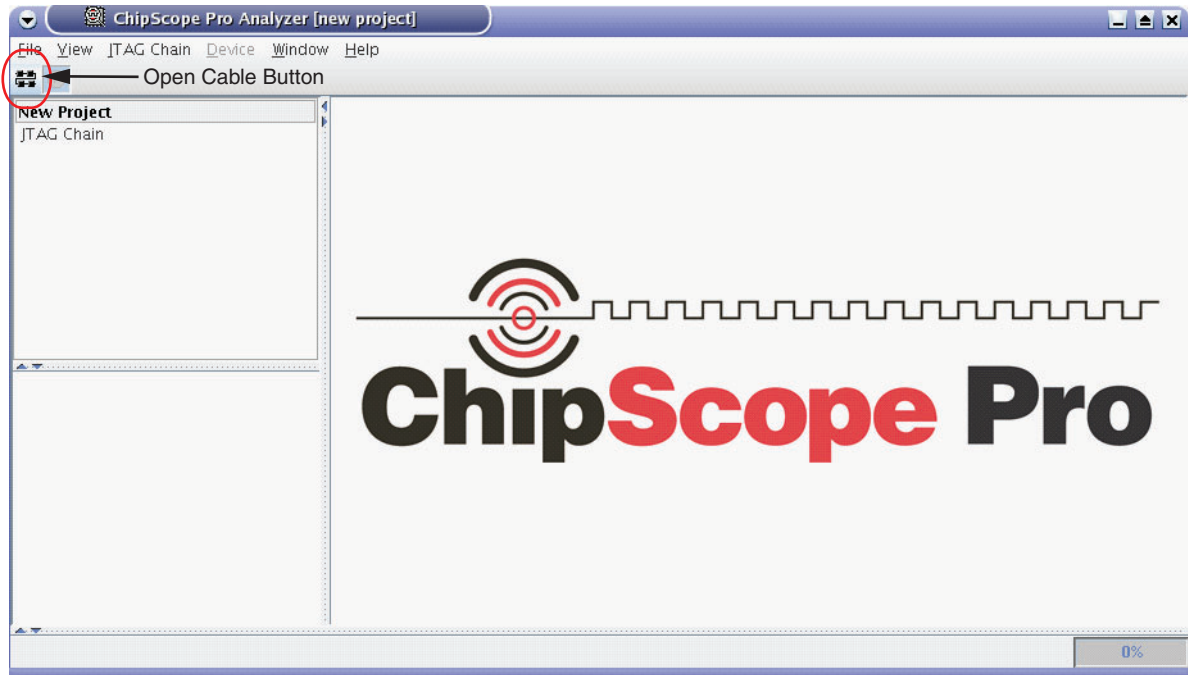

Figure 1-15: Open Cable Button
7. Click the **Open Cable** button (Figure 1-15).